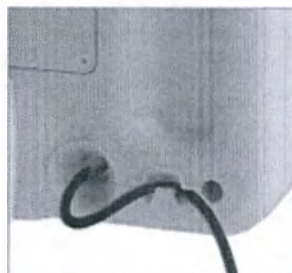

Figure 3: Power Cable Retention Mechanism Usage
Refer to Figure 3.</p> <p>(F) Recessed Hand Hold</p> <p>(G) Cooling Vents</p> |